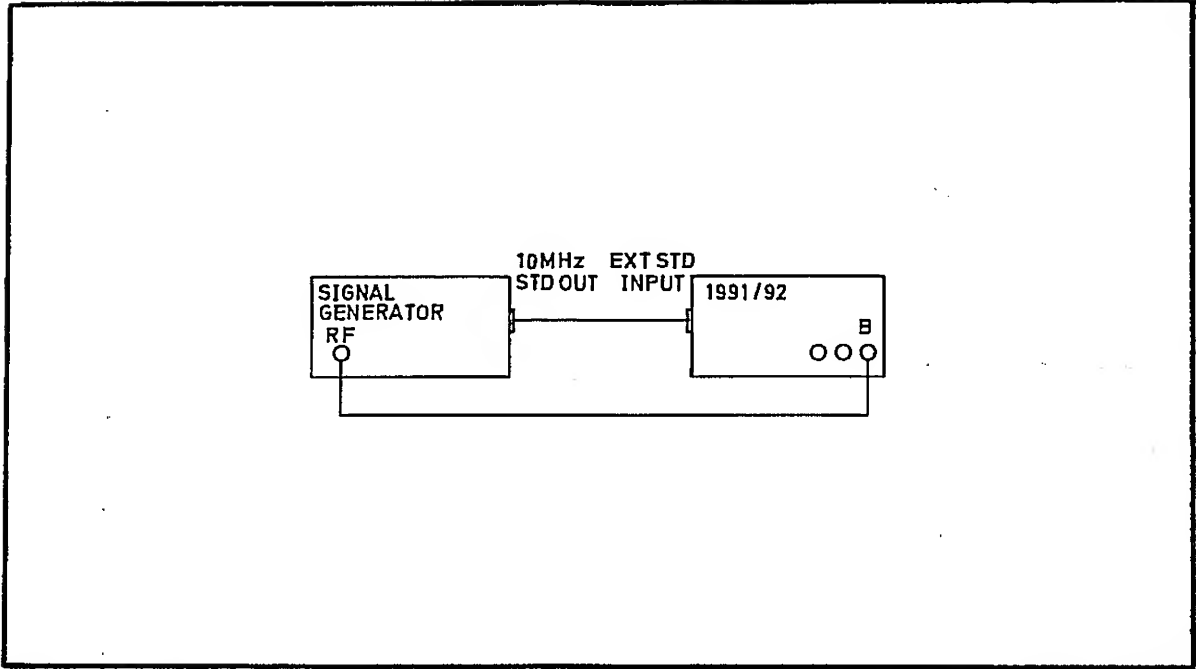

Fig 7.12 Connections for Channel B Input System Adjustment
- (3) Press the RESOLUTION \downarrow key five times, until 000 is displayed.
- (4) Connect the test equipment as shown in Fig 7.12.
- (5) Set the signal generator output to 100 MHz at a level of 3.0 mV r.m.s.
- (6) Verify that the EXT STD indicator is lit, and that the channel B TRIG indicator is flashing.
- (7) Adjust R193 to obtain the most stable display indication of $100.0 \underline{6} \pm 0.1 \underline{6}$, with the GATE indicator flashing.